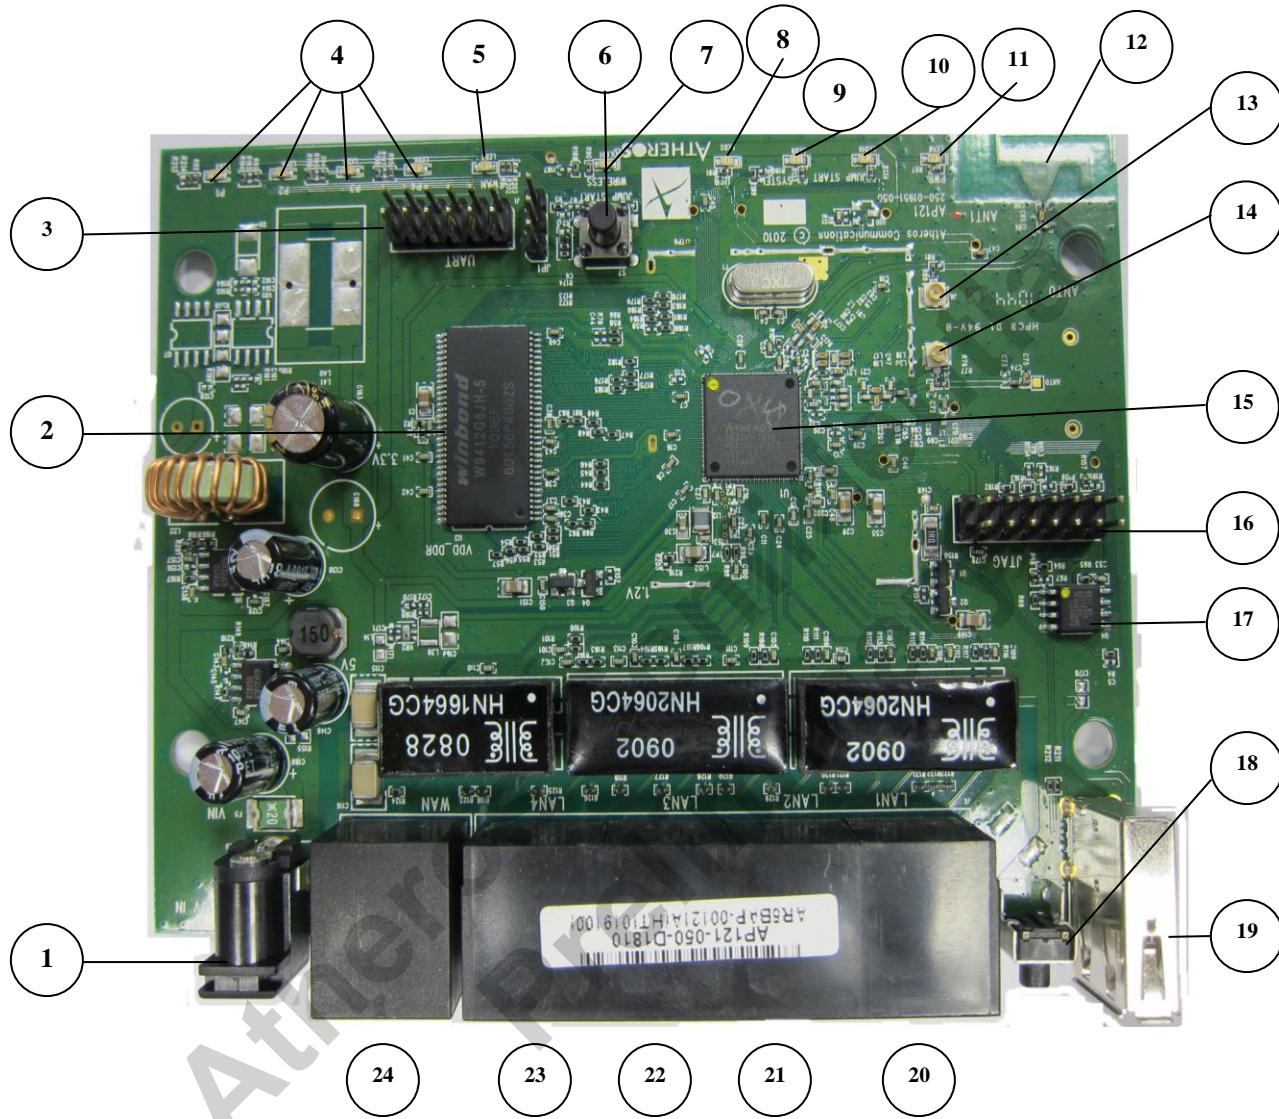

Figure 1 AP121-050 Reference Design Board
Figure 1 depicts the AP121-050 Reference Design board. See Table 1 to identify the buttons and external interfaces on the board.
4. Use a RS232 cable to connect the AP121-050 to an available COM port on the PC. Connect the other end of the RS232 cable to the RS232 adapter (see Figure 1).